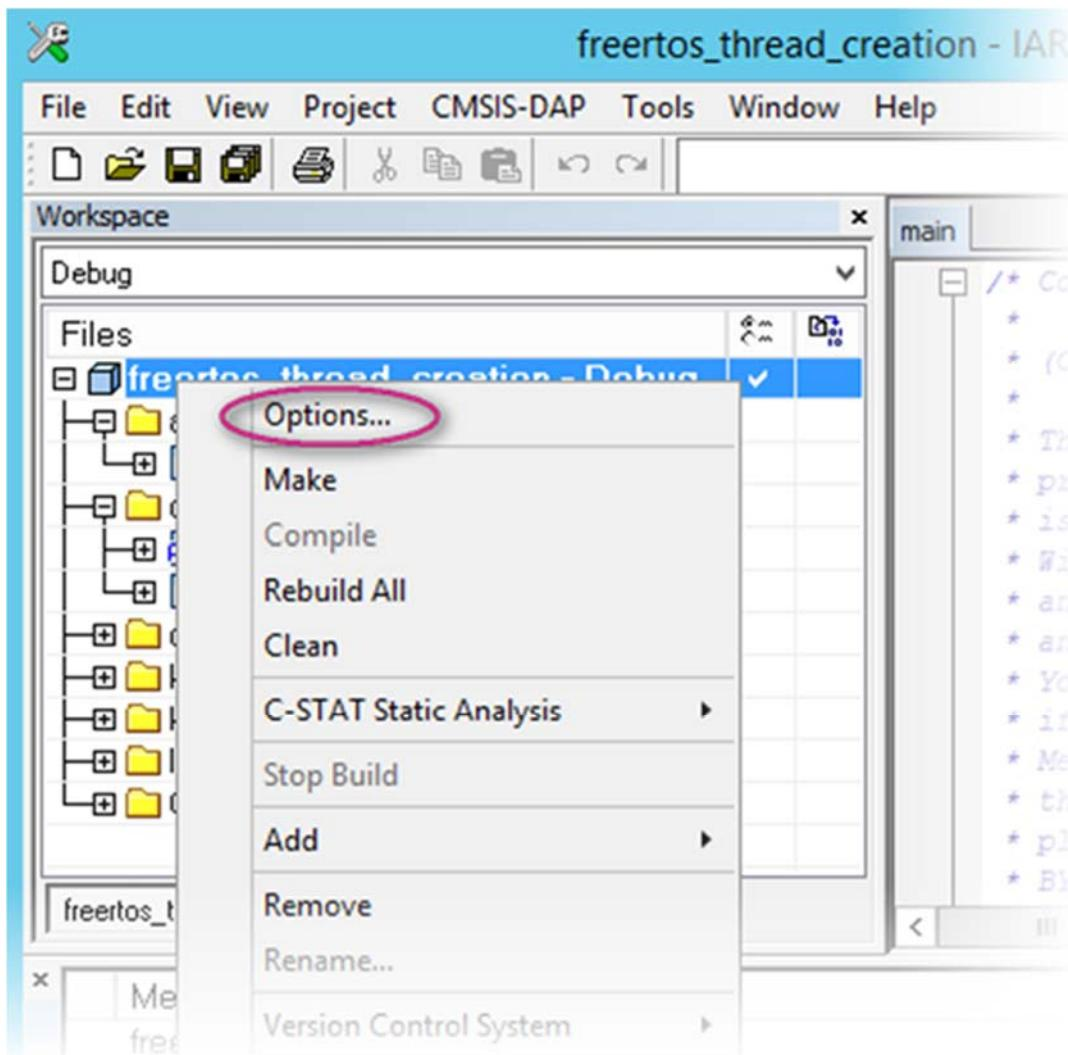

Figure 57. Set download configuration on IAR IDE
- 2) Click **Options** on IAR Embedded Workbench (see Figure 57).